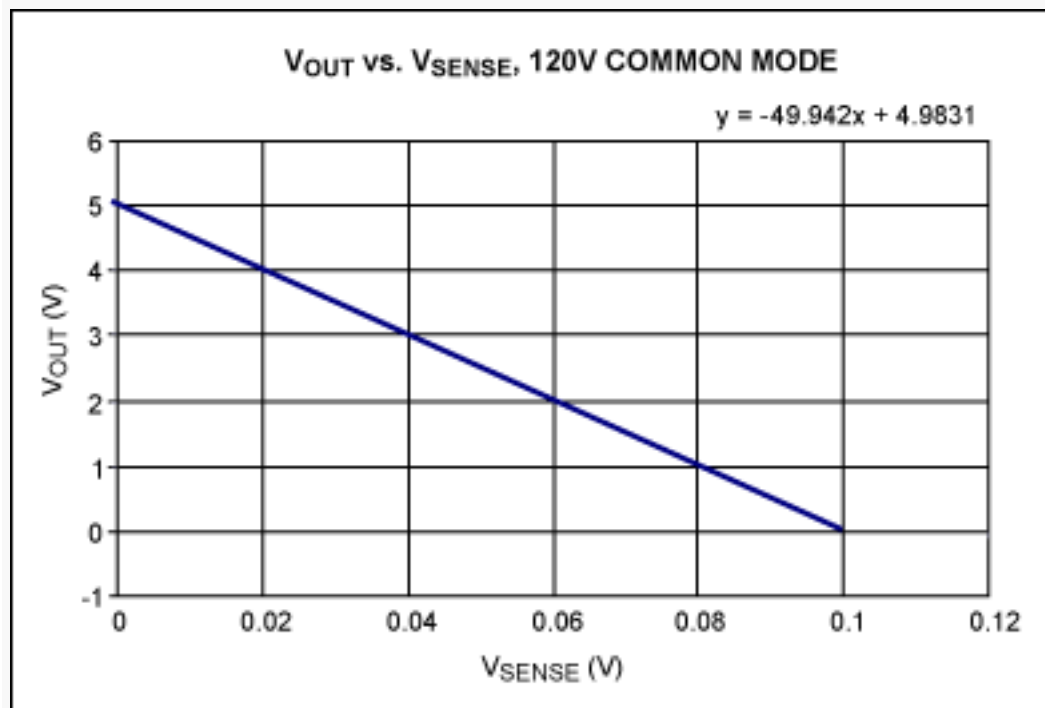

Figure 4. Output voltage variation with variation in sense voltage at  $T = +25^{\circ}\text{C}$ .
**Figure 4** plots the resulting typical output voltage as a function of the sense voltage. The following typical parameters can be inferred for the current-sense amplifier: